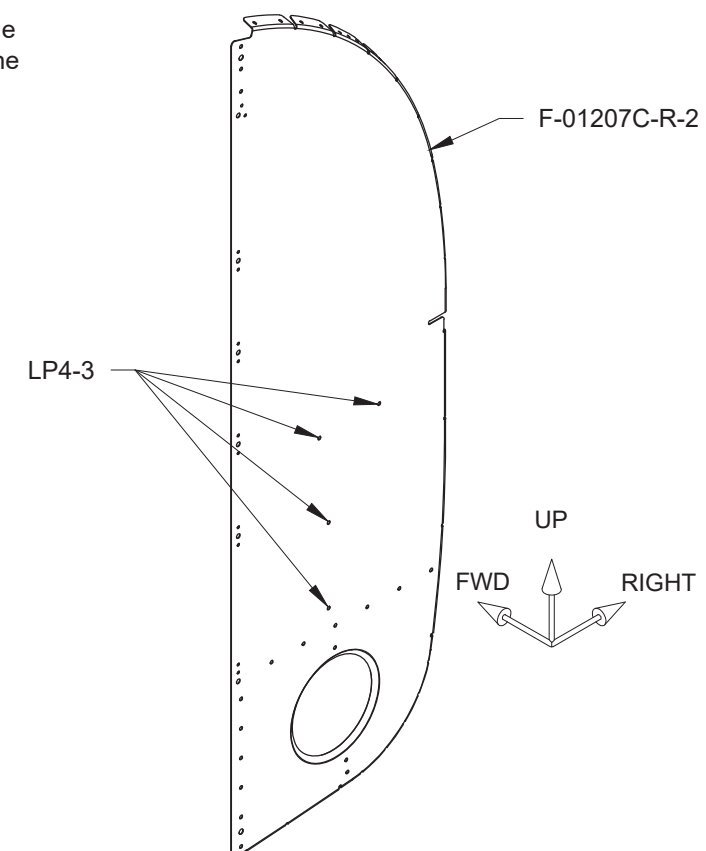

FIGURE 4: F-01207C-R-2 RIVETS
Step 3: Fill the four indicated holes in the F-01207C-R-2 with the rivets called out in Figure 4. Place the manufactured head on the forward side.